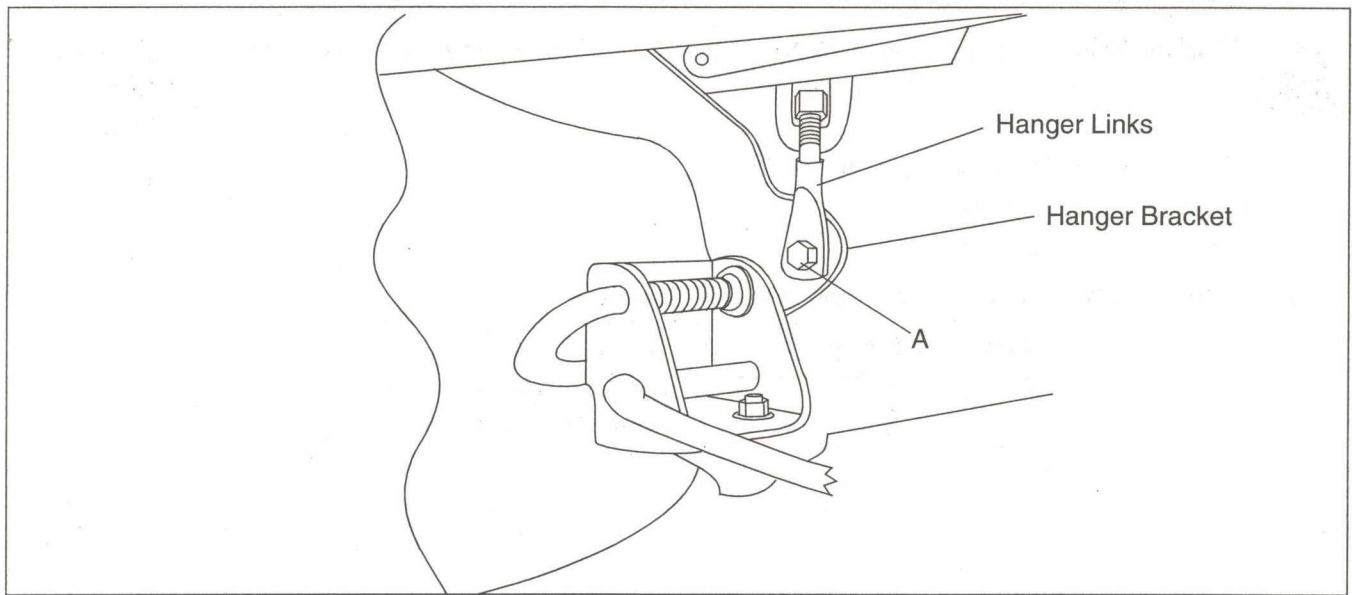

Figure 19
3. Locate the left and right mower deck hanger links. (See Figure 19)